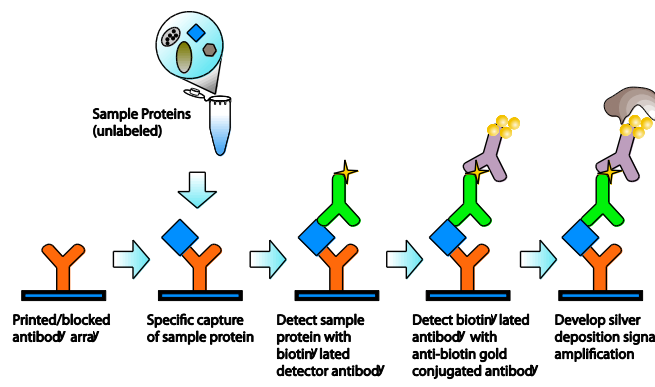

Figure 1. Schematic showing the configuration of a multiplexed sandwich assay using SilverQuant detection
SilverQuant detection technology, shown schematically in Figure 1, is an array-based method for the detection of biotin labeled proteins with exceptional sensitivity, reproducibility and dynamic range. SilverQuant (SQ) reagents generate light grey-to-black spots that are visible to the naked eye and are easily detectable using affordable chromogenic scanners. SilverQuant detection is based on gold particle-enhanced silver deposition and is several times more sensitive than fluorescence. It is not subject to photobleaching, ozone sensitivity, or spot blooming. A single sample well can contain as many as several hundred highly localized array spots that can be archived for years after testing. SilverQuant detection technology works with the AthenaQuant® System, a complete platform that integrates chromogenic scanning and array analysis at a price that is comparable to that of a bench-top ELISA system. AthenaQuant System supports a wide variety of assay types including quantitative antibody sandwich assays (multiplex ELISAs), profiling sandwich assays, high-density-based antibody arrays, as well as arrays comprised of peptides, proteins, and tumor lysates.